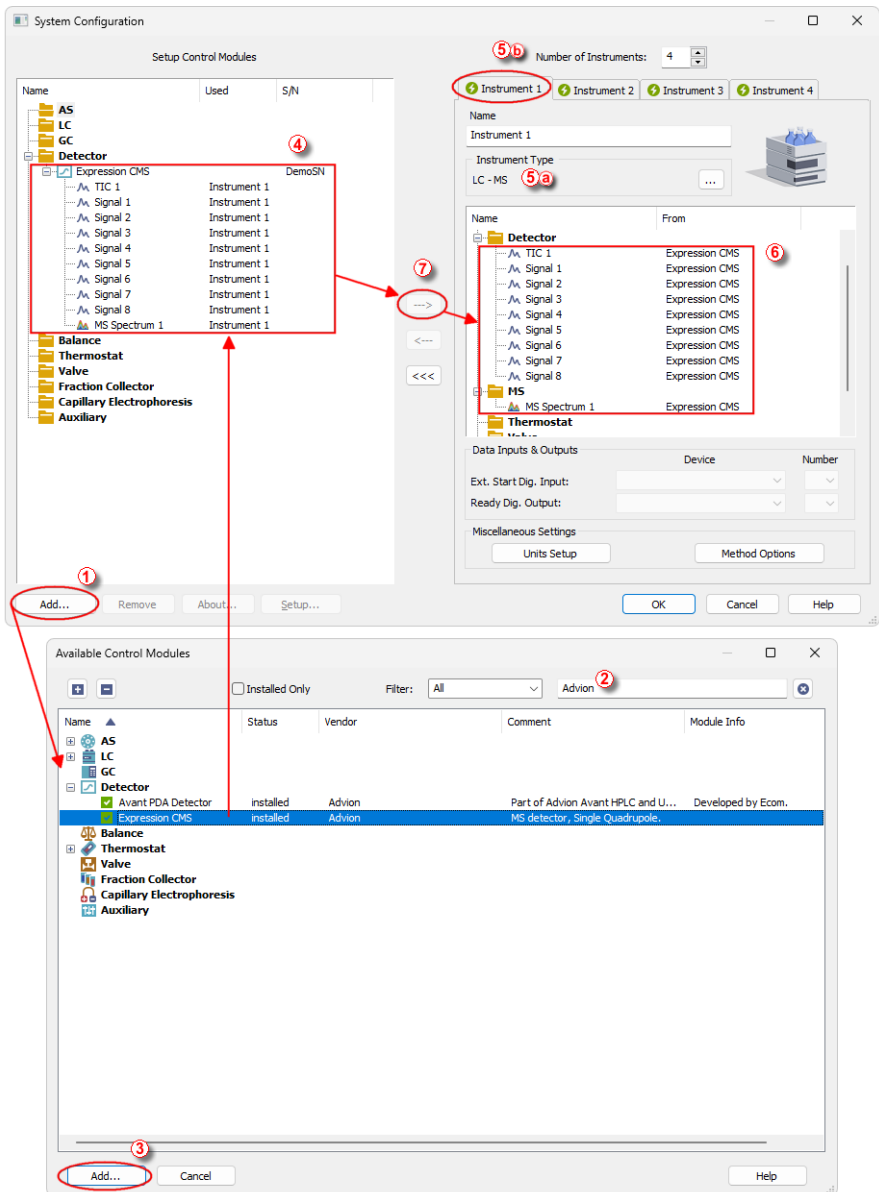

Fig. 2: How to add Advion Expression CMS
- Press the *Add* button ① (see Fig. 2 on pg. 4.) to invoke the *Available Control Modules* dialog.
- You can specify the searching filter ② to simplify the finding of the driver.
- Select the **Expression CMS** and press the *Add* ③ button.